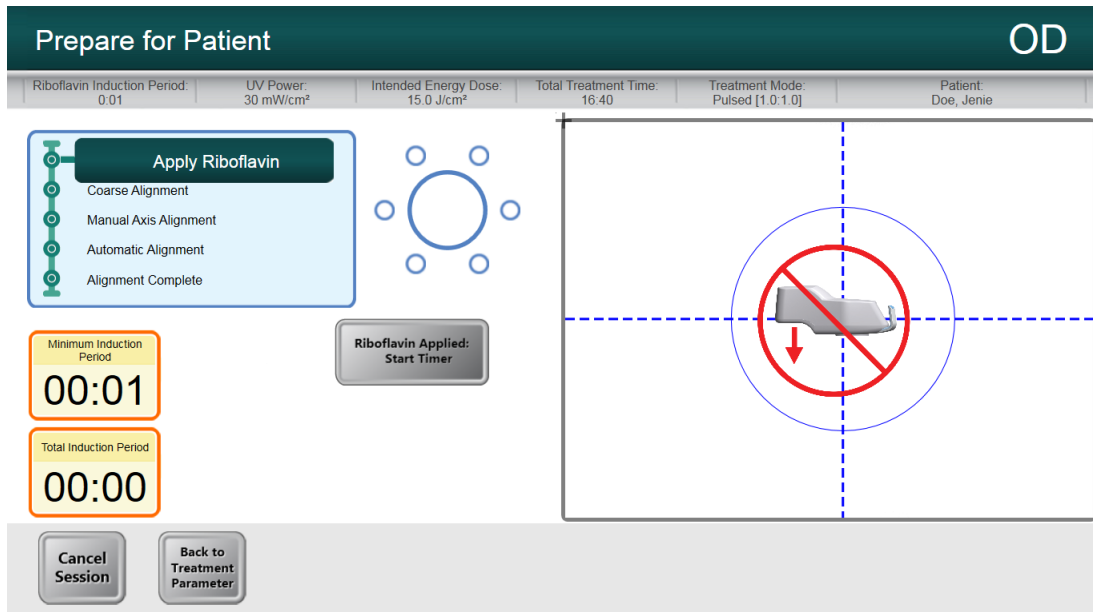

Figure 4-4. Proximity Warning: Move lift up
- If the proximity sensor is triggered, the lift will stop responding and a warning will flash on the screen as shown below in Figure 4-4.